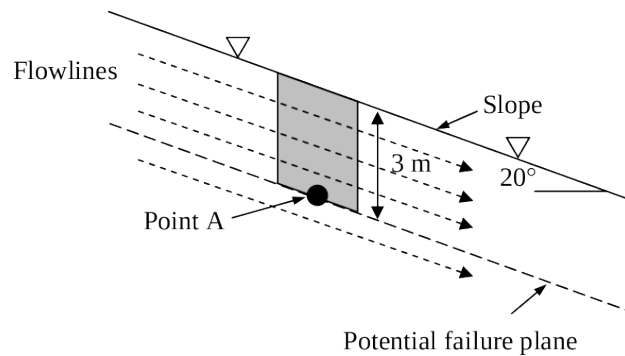

Fig. 2
- (b) Seepage is occurring parallel to the slope and the water table is at the slope surface as shown in Fig. 2. A standpipe piezometer is installed at Point A, which is located at a potential failure plane. Draw the equipotential lines and evaluate that the pore pressure at Point A.